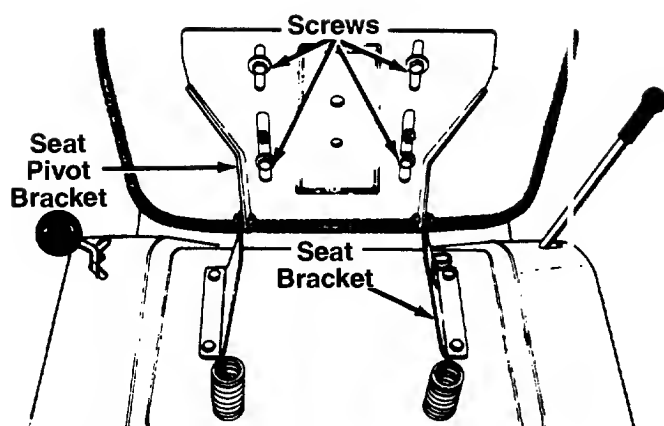

FIGURE 2.
2. Turn the seat around and place in position against the seat pivot bracket, lining up the slotted holes in the pivot bracket with the holes in the seat. Select desired position for the seat, and secure with the four screws. See figure 2.